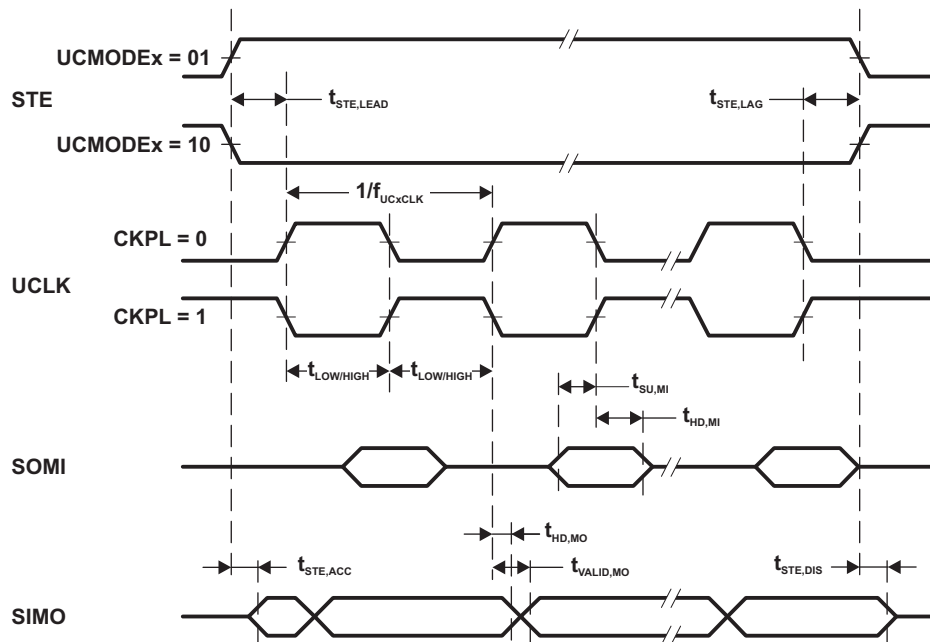
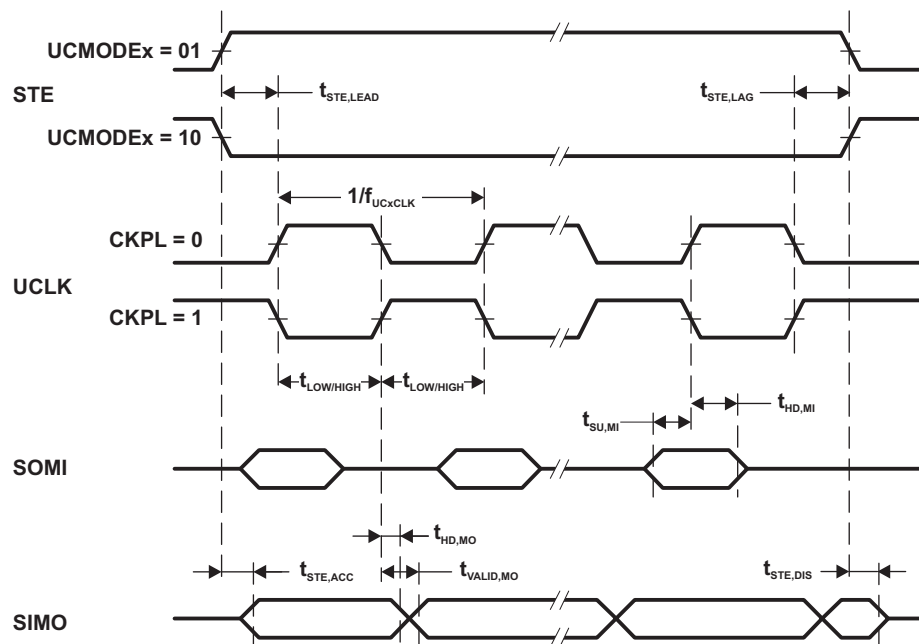

Figure 5-10. SPI Master Mode, CKPH = 0
Figure 5-11. SPI Master Mode, CKPH = 1
- (1) f_{UCXCLK} = 1/2(t_{LO/Hi} with t_{LO/Hi} = max(t_{VALID,MO}(eUSCI) + t_{SU,SI}(Slave), t_{SU,MI}(eUSCI) + t_{VALID,SO}(Slave)). For the slave's parameters t_{SU,SI}(Slave) and t_{VALID,SO}(Slave) refer to the SPI parameters of the attached slave.
- (2) Specifies the time to drive the next valid data to the SIMO output after the output changing UCLK clock edge. Refer to the timing diagrams in Figure 5-10 and Figure 5-11.
- (3) Specifies how long data on the SIMO output is valid after the output changing UCLK clock edge. Negative values indicate that the data on the SIMO output can become invalid before the output changing clock edge observed on UCLK. Refer to the timing diagrams in Figure 5-10 and Figure 5-11.